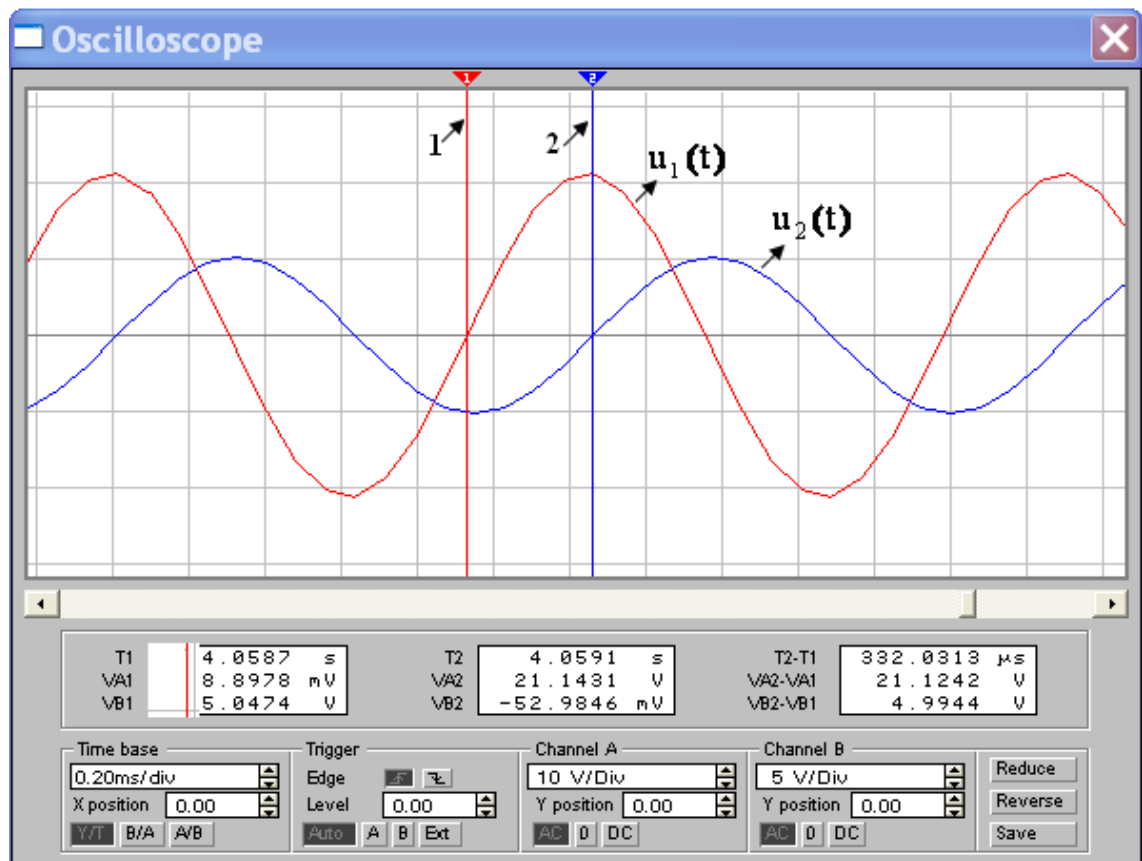

Figure 4.10
It is possible to measure the initial phase angles of sinusoidally time-varying voltages and currents relatively to initial phase angle of input voltage  $u_1(t)$  by means of the oscilloscope (figure 4.10). In order to measure the initial phases of voltages the channel (A) of oscilloscope should be connected to the point (1) (this wire is colored red) and the channel (B) – to the point (2) (this wire is colored blue). Set the first (red) and the second (blue) survey lines to the same phase point of the input  $u_1(t)$  and the output  $u_2(t)$  voltages, for example in the start zero point of sinusoidally